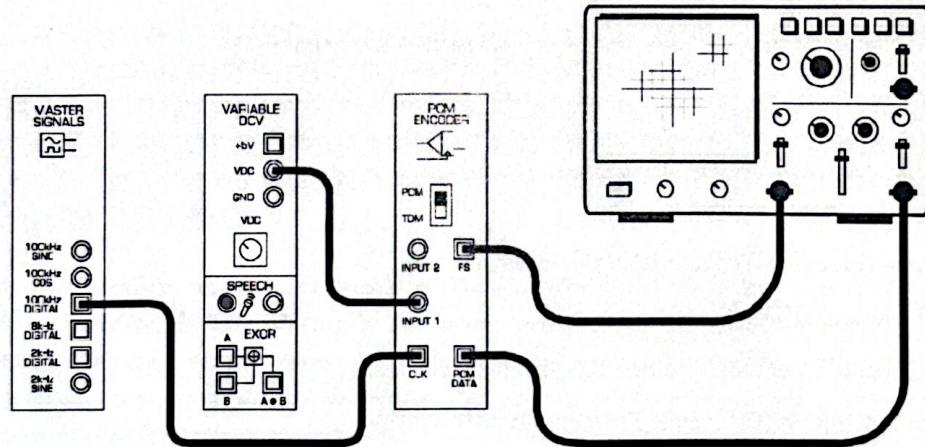

Figure 1
4. Connect the set-up shown in Figure 1 below.